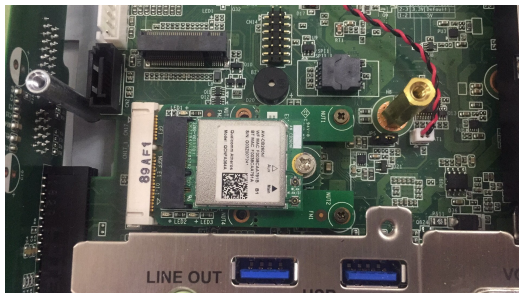
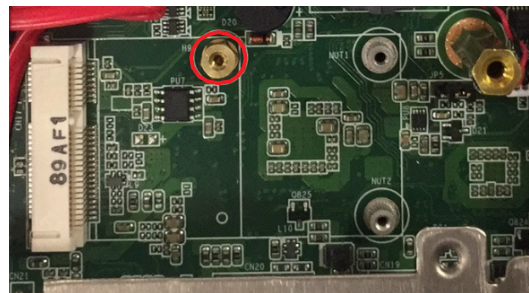

Figure 2.21
Figure 2.22
1. Follow the procedures in Section 2.3 to open the rear cover and remove the reinforcement plate. Wireless LAN cards can be installed in the location shown in Figure 2.21. For wireless short cards, retrieve one hexagonal screw from the accessory box to affix it in place (Note: If a half-size PCIe is used, the hexagonal screw circled in red in Figure 2.22 must be tightened).